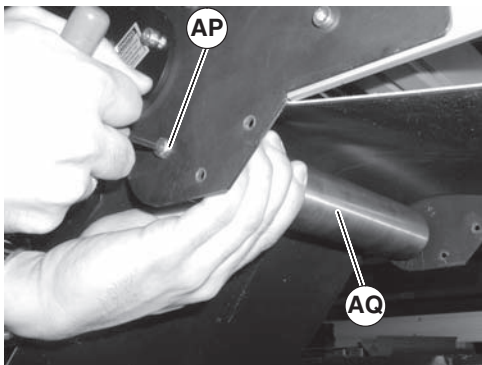

Figure 78
- Push in hex posts (Figure 78, item AP) and remove pulley (AQ).